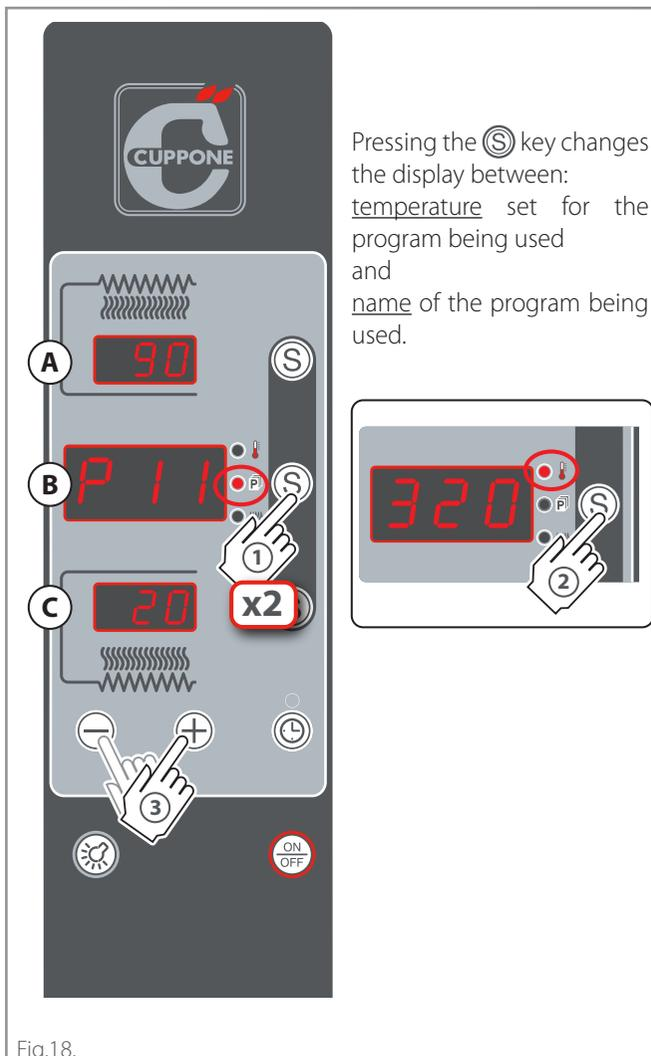

Fig.18.
See ▶ chapter “**Using a previously stored program**” on page 16 and ▶ Fig.18.
► Fig.18.
① Press the **(S)** key twice quickly: the program LED switches on **(P)**, the display **(B)** shows the program being used (e.g. P11) while displays **(A)** and **(C)** show the percentage of the elements set in that program.
② If you wish to know also the temperature set for the displayed program, press key **(S)** (the temperature LED will switch on **(T)**). To display the name of the program again, press key **(S)** again.
③ To select a different program, when display **(B)** shows the name of the program being used (e.g. P11), press the keys "+" and "-" to scroll the list of the 99 available programs.